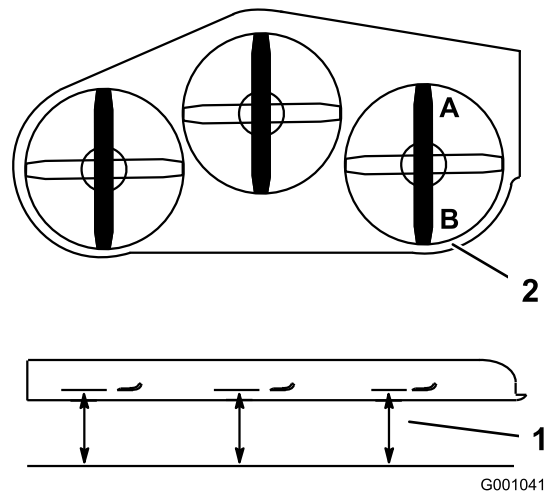
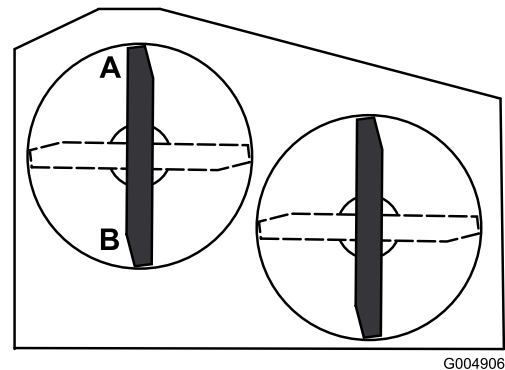

Figure 64
Figure 65
2. Position one blade front-to-rear. Measure at **A** and **B** locations from a level surface to the cutting edge of the blade tips (Figure 64 or Figure 65). For 36 inch mower decks use Figure 65.
- Position the blades front-to-rear. Measure at C and D locations (Figure 64) from a level surface to the cutting edge of the blades.